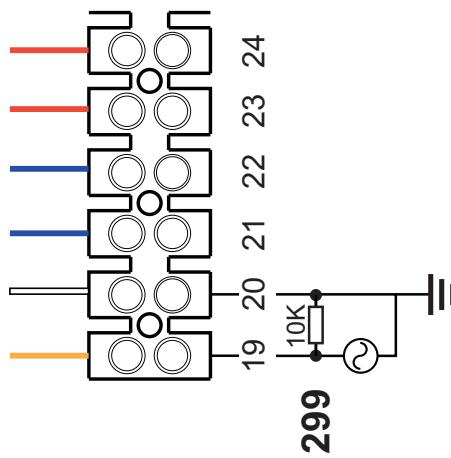

fig. 94-
**ATTENTION:** In case of instability in the reading of the 0-10V signal by the electronic controller, it is advisable to connect the signal reference to ground, and insert a 10K resistor in parallel, as per fig. 94.